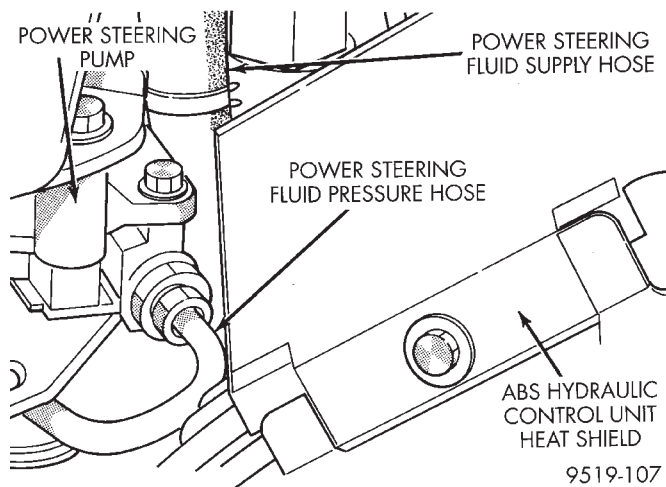

Fig. 33 Hydraulic Control Unit Heat Shield
(8) Remove the antilock brakes hydraulic control unit heat shield (Fig. 33) from the hydraulic control unit mounting bracket.
(11) Install heat shield on hydraulic control unit for the antilock brake system (Fig. 33).